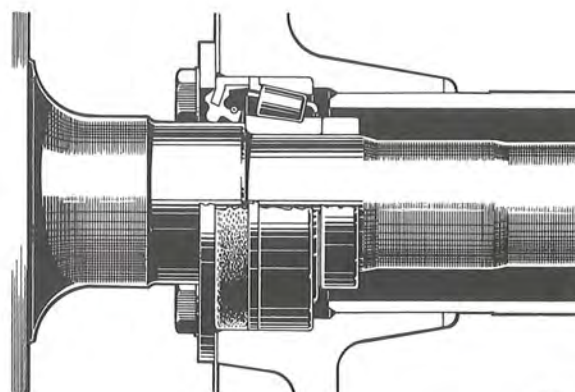

Fig. 4-134. Drive shaft journaling
The drive pinion is carried in taper roller bearings. The axial location of the drive pinion relative to the crown wheel is adjusted by means of shims under the outer race of the rear pinion bearings. Application of the pinion bearings is by means of shims under the front pinion bearing inner ring. The outer end of each drive shaft is journalled in a taper roller bearing. Bearing clearance is not adjustable but is determined by the construction of the bearing, see Fig. 4-134. There are oil seals on both sides of the drive shaft bearings.
5. Fill the space between the seal lips on the new oil with grease. Then place it on the drive shaft. Fit the bearing and lock ring. Turn the bearing correctly, see Fig. 4-134.